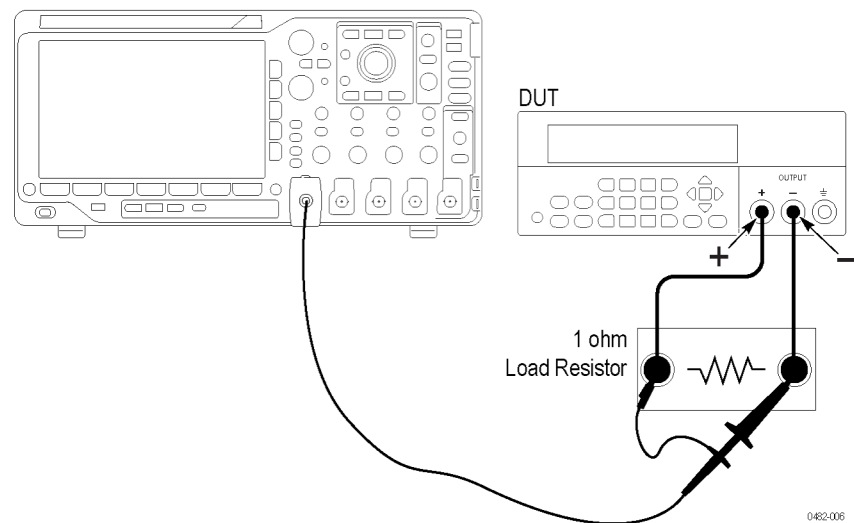

Figure 4: 20 MHz current noise test setup
4. Set up the equipment as shown. (See Figure 4.)